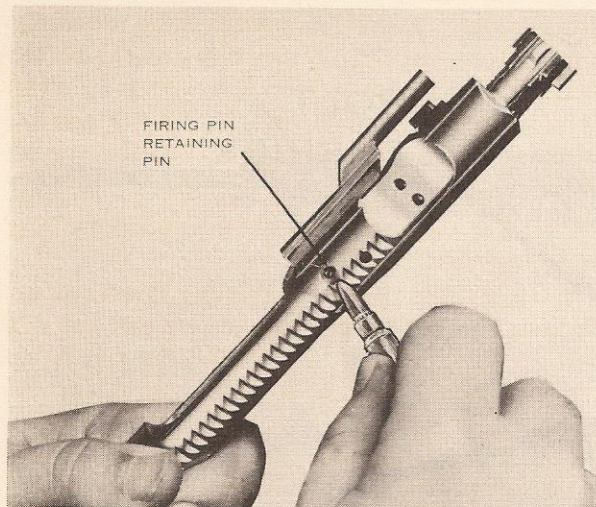
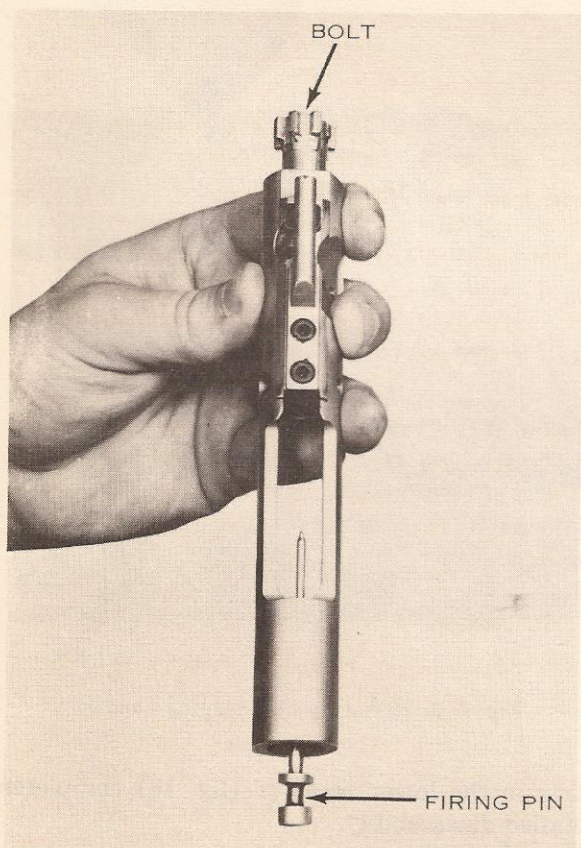

Figure 10. Pressing out firing pin retaining pin.
Figure 11. Removing the firing pin.
e. To disassemble the bolt carrier group, press out the firing pin retaining pin by using the nose of a dummy round (fig. 10). Elevate the front of the bolt carrier and allow the firing pin to drop from its well in the bolt (fig. 11). Rotate the bolt until the cam pin is clear of the bolt carrier key and remove the cam pin by rotating it  $\frac{1}{4}$ -turn and lifting it out of the well